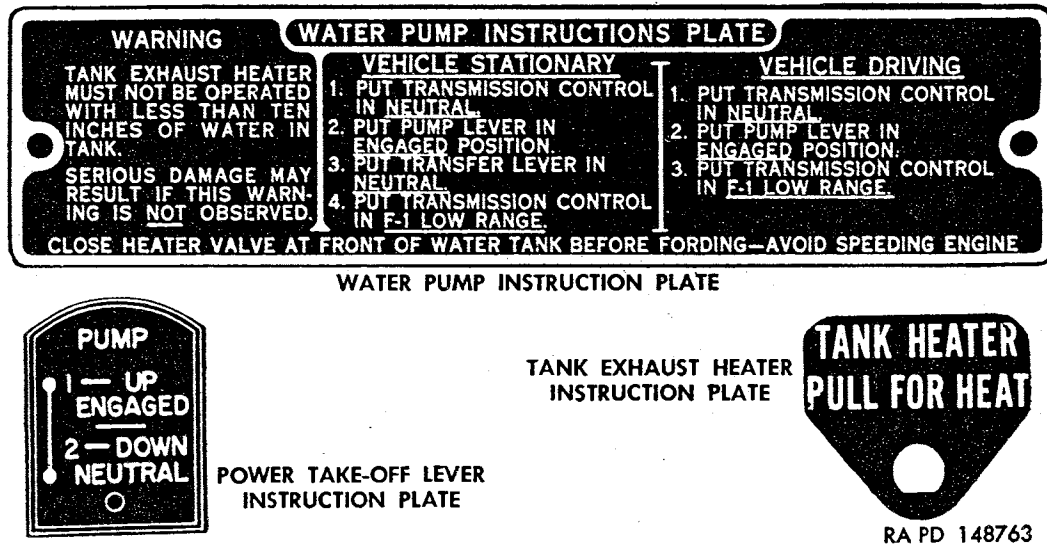

Figure 52. Water pump instruction plates.
- (1) *Water pump instruction plate.* The instruction plate (fig. 52) is mounted on instrument board (fig. 29). The plate includes brief instructions on the use of transmission shift control lever, transfer lever, and power-take-off lever for operation of tank pump. The plate also includes warning regarding use of tank exhaust heater.
- (2) *Power-take-off lever instruction plate* (fig. 52). Plate is fastened to handle of power-take-off lever, and includes instructions regarding the positioning of lever to operate pump.
- (3) *Tank exhaust heater instruction plate* (fig. 52). Plate is held in position by tank exhaust heater control which is mounted on instrument board (fig. 29).
a. Pump Lever. Power-take-off pump lever is located to right of driver near floor. Instruction plate (fig. 52), mounted on lever handle, indicates two lever operating positions which are UP ENGAGED and DOWN NEUTRAL. After fitting hoses and positioning suction and discharge gate valves as explained in *d* below, pump is then operated as explained in *b* or *c* below.
- (1) Place transmission shift control lever into N position and start engine.
- (2) Pull up power-take-off pump lever to UP ENGAGED position.
- (3) Place transfer lever in DOWN NEUTRAL position.